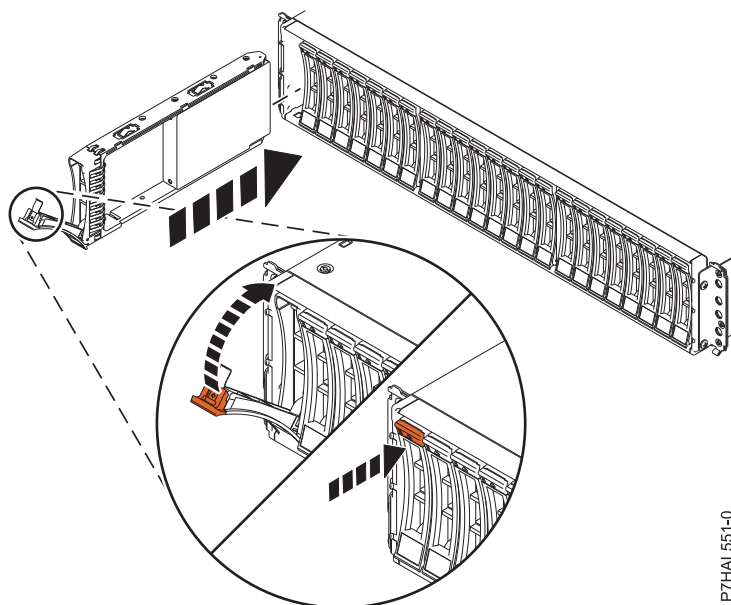

Figure 25. Installing or replacing the disk drive in the 5887 disk drive enclosure
2. With the handle in the unlocked position as shown, in Figure 25 on page 25, support the bottom of the drive as you align it with the guide rails in the enclosure.
4. Lock the drive by rotating the bay handle (A) in the direction that is shown in Figure 25.